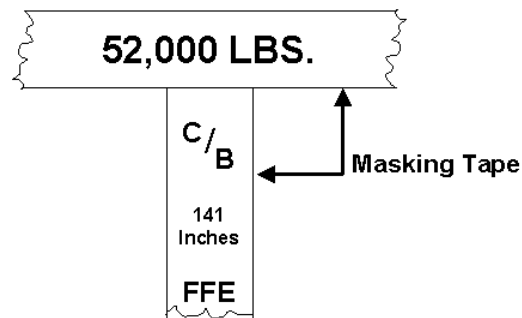

Figure P-2. Center of Balance Marker
3. After computing the CB of a vehicle, mark its location and gross weight on both sides using weather resistant masking tape and grease pencil/magic marker, forming the letter “T”, Figure P-2.